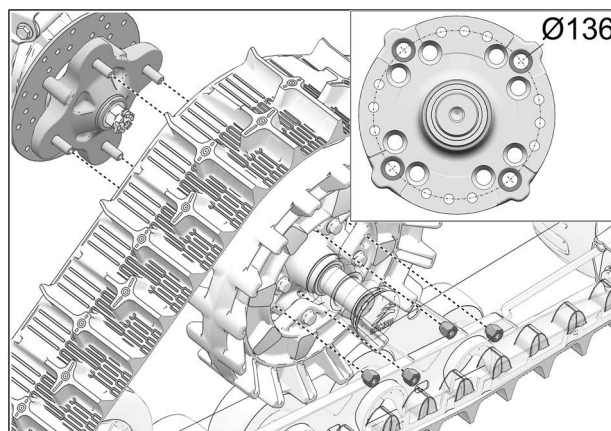

Fig. 20
10. Secure undercarriage to front hub using the vehicle's own lug nuts. Use bolt circle Ø136 mm. See Fig. 20